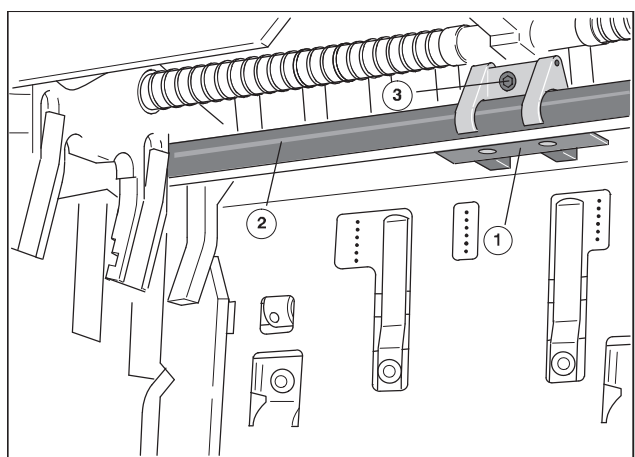

Fig. 59 Installing the sensor shoe
1. Rotate the press with the crank handle until the feeler rod (Fig. 59/2) has reached the lowest point.
3. Unscrew the Allen screw (Fig. 59/3) at the sensor shoe (Fig. 59/1) up to the stop.
4. Place the sensor shoe (Fig. 59/1) from above on the feeler rod (Fig. 59/2) and let engage in the recesses in the feeler rod.
5. Fix the position of the sensor shoe on the cross bar with the Allen screw (Fig. 59/3) (operator tool).